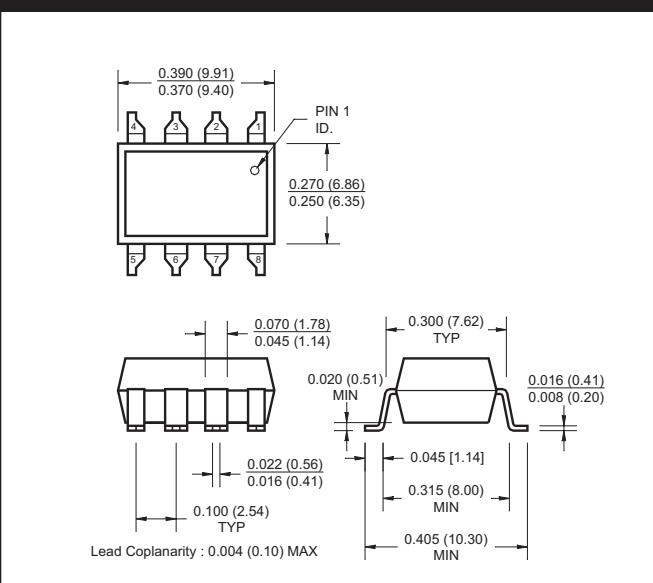

**Fig. 10. Test Circuit for Common Mode Transient Immunity and Typical Waveforms**
7. Common mode transient immunity in logic high level is the maximum tolerable (positive)  $dV_{CM}/dt$  on the leading edge of the common mode pulse signal  $V_{CM}$ , to assure that the output will remain in a logic high state (i.e.,  $V_O > 2.0$  V). Common mode transient immunity in logic low level is the maximum tolerable (negative)  $dV_{CM}/dt$  on the trailing edge of the common mode pulse signal,  $V_{CM}$ , to assure that the output will remain in a logic low state (i.e.,  $V_O < 0.8$  V). (Refer to Fig.10)